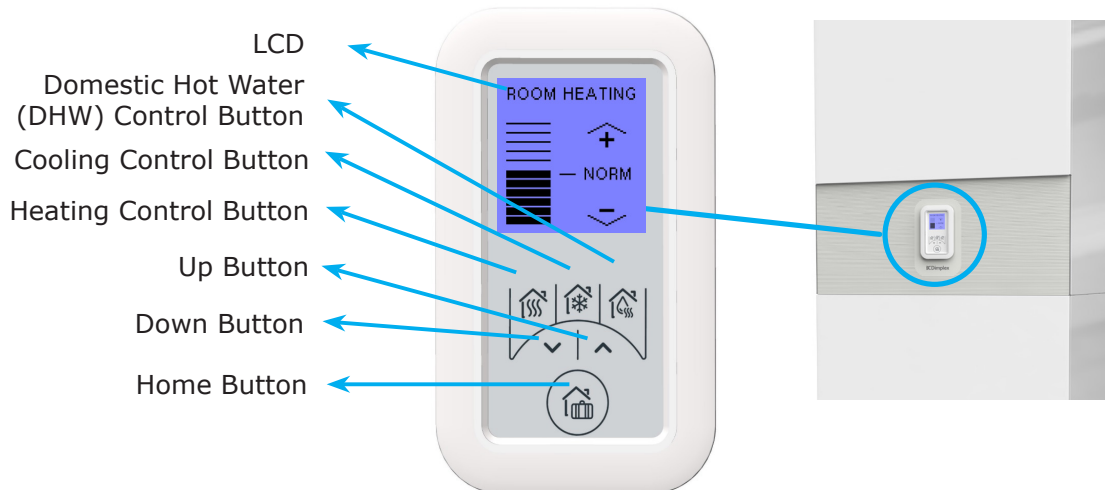

Figure 2: User Interface Overview
The Zeroth User Interface (UI) is located on the front of the appliance (Figure 2) and performs a number of functions:
The UI consists of the following elements as shown in Figure 2.